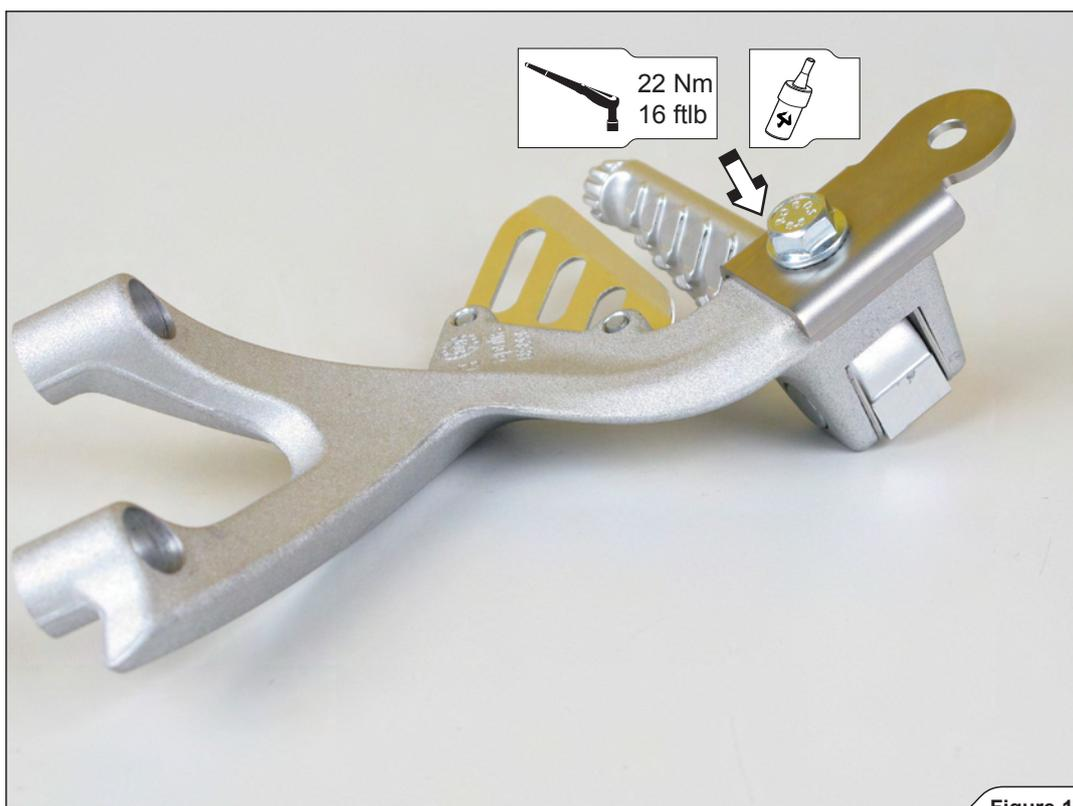

Figure 13
5. Attach the additional Akrapovič stainless steel bracket to the stock passenger's footrest, using Akrapovič M8x16 bolt (Figure 13).